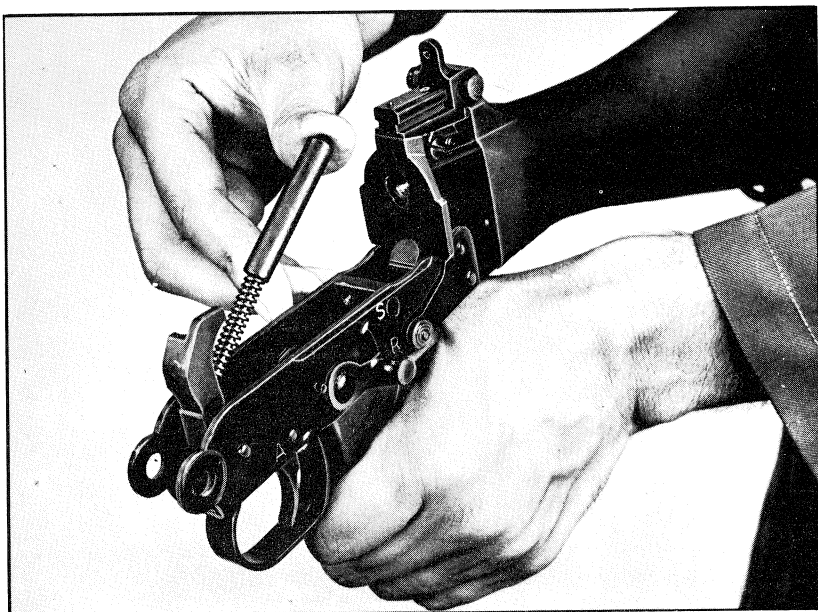

Fig.136
- Compress the hammer spring with the thumb and push it forward and downward so that it falls into its housing (fig. 136).